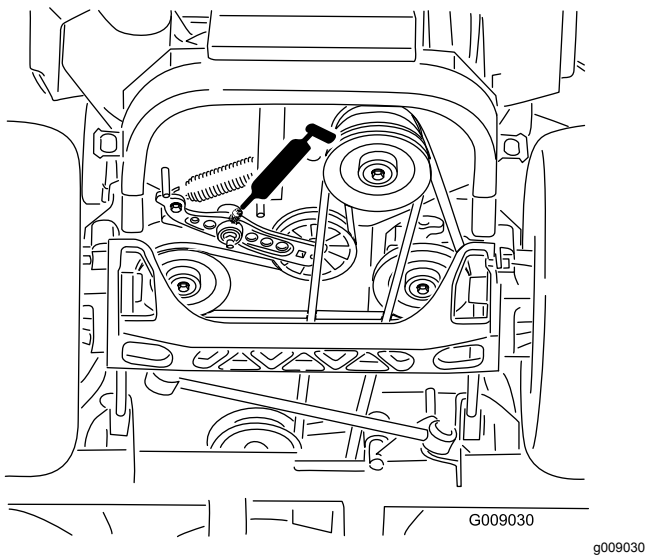

Figure 42
5. Grease the drive-belt-idler arm (Figure 42).